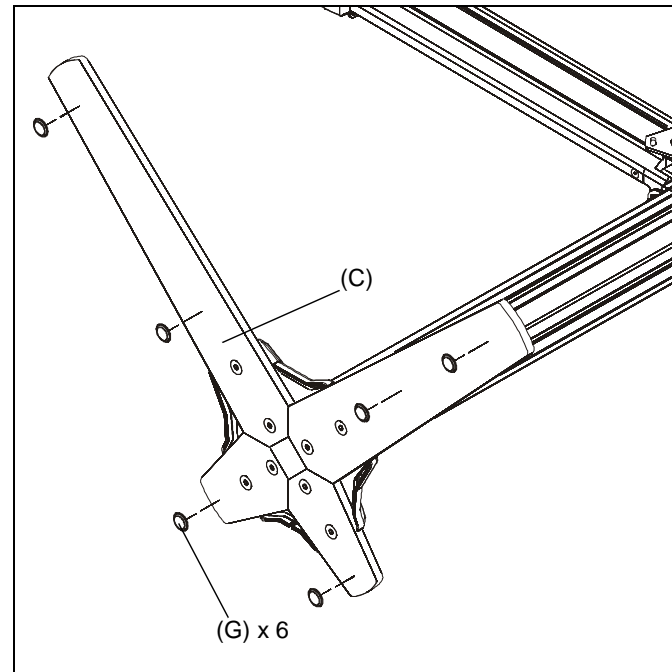

Figure 4
5. Apply bumpers (G) to underside of table top base (C). (See Figure 4)